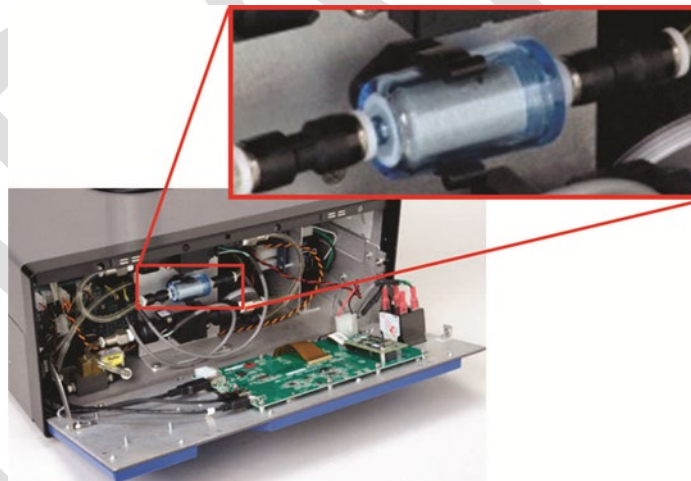

Figure 4. Internal DFU.
5. Noting its orientation, remove the old DFU by detaching from the pneumatic quick-connect fittings, and replace with a new DFU matching the orientation (Figure 4).